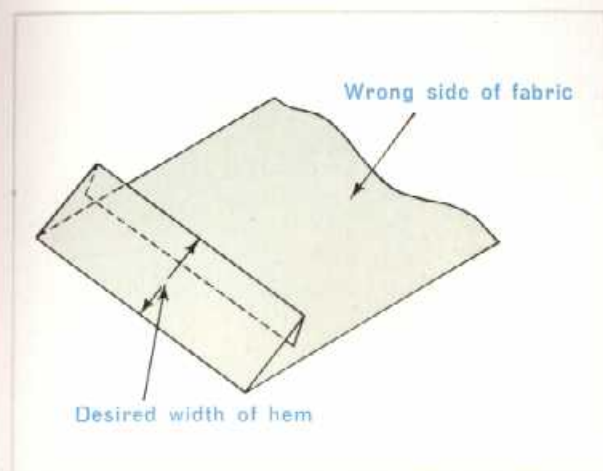

Fig. 77
- 2) Fold desired width of hem toward wrong side of fabric, as shown in Fig. 77. Follow this step for all types of fabric.